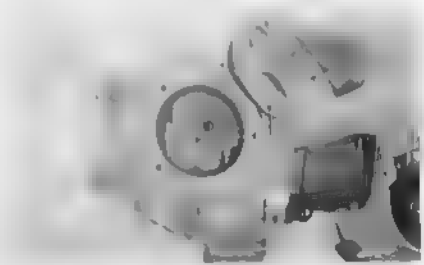

Fig. 3.15 Removing the point base ① Point base
7. Remove the point base ① by taking off the three mounting screws. (Fig. 3.15)